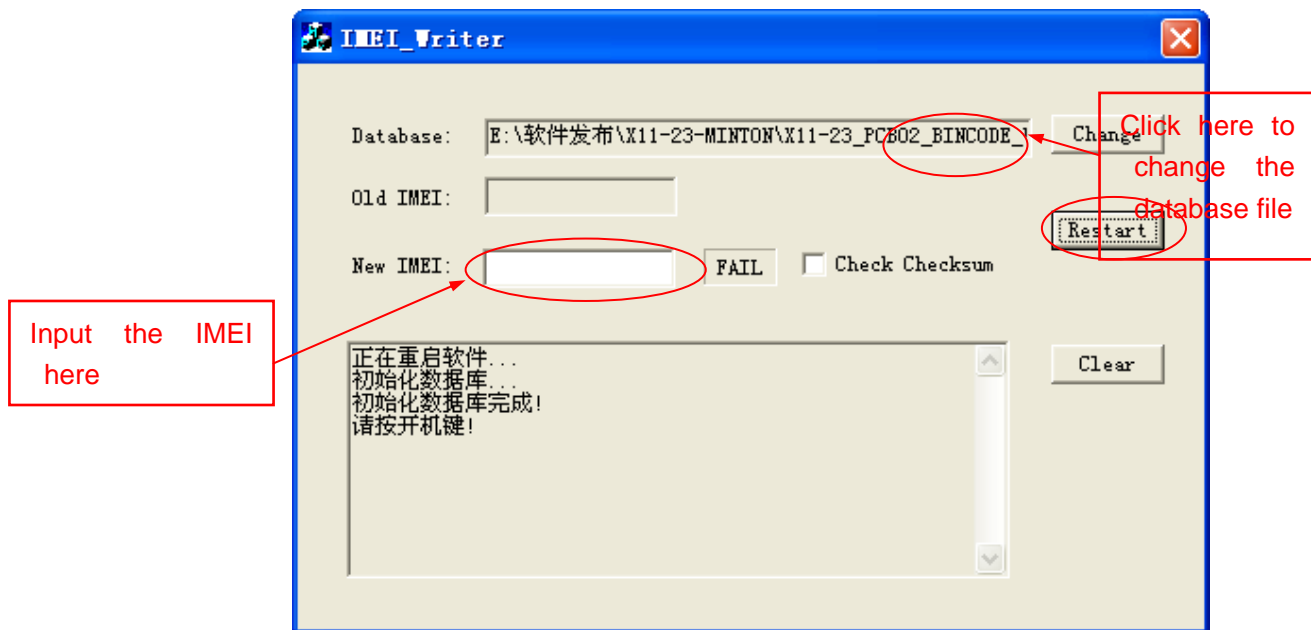

Figure 1-4
1.1 input the IMEI of the slave phone referring to figure 1-4, click “Restart”, after 3 seconds plug the slave phone cable connector to the phone and power on the phone.
2.1 Change the database file to be for the master phone , referring figure 1-4.